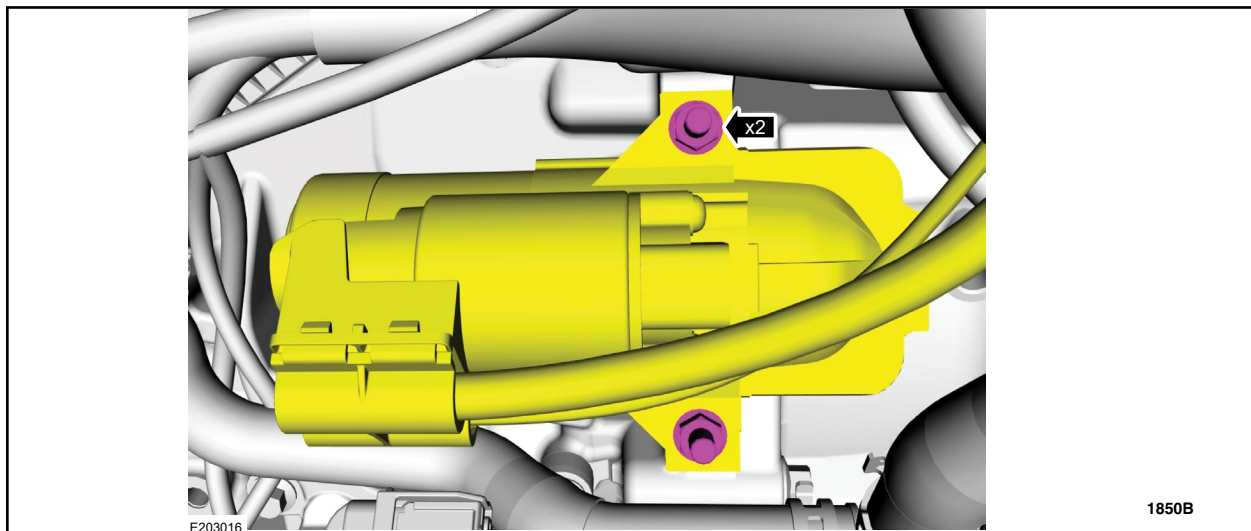

FIGURE 3
4. Remove the starter motor stud bolts and then position the starter motor to gain access to the starter motor battery positive cable nut and starter motor control wire nut. See Figure 3.